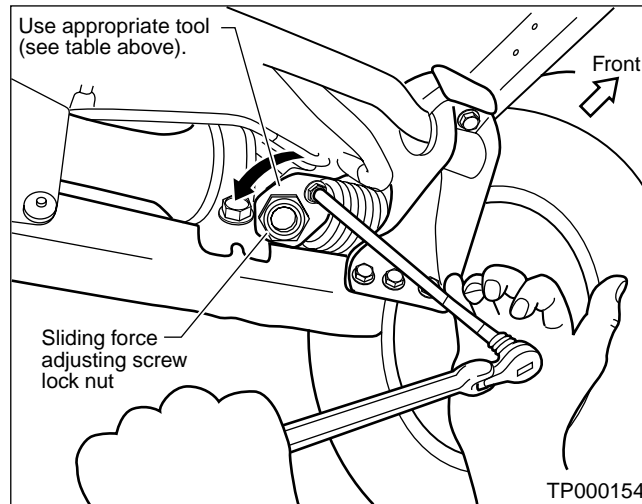

Figure 5
1. Loosen the steering rack sliding force adjusting screw lock nut while holding the sliding force adjusting screw (see Figure 5).